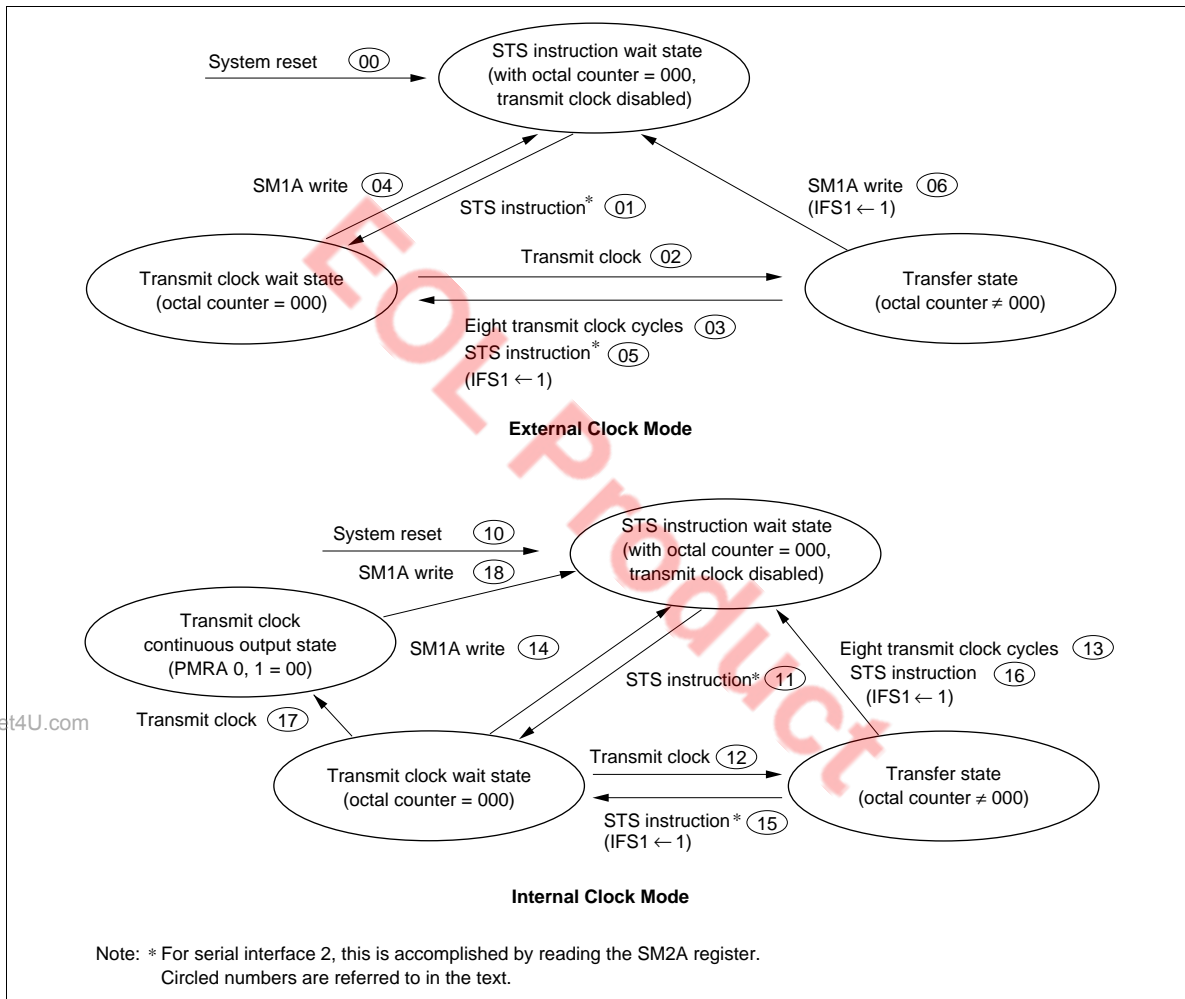

Figure 67 Serial Interface State Transition Diagram
Operating States: Serial interface 1 has the following operating states; transitions between them are shown in figure 67.
- STS wait state: The serial interface enters STS wait state by MCU reset (00, 10 in figure 67). In STS wait state, serial interface 1 is initialized and the transmit clock is ignored. If the STS instruction is then executed (01, 11), serial interface 1 enters transmit clock wait state.